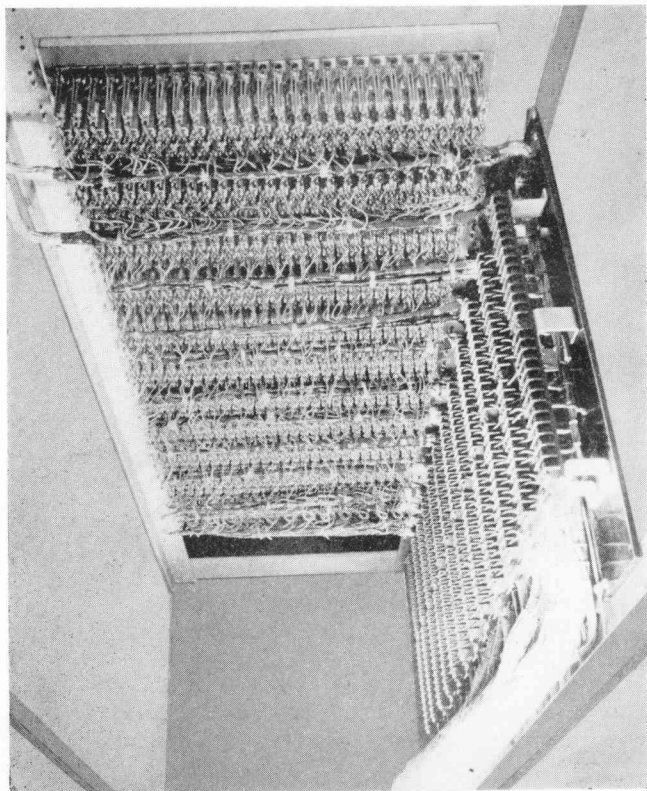

Figure 2-14. Top View Showing Alternate Method of Mounting Terminal Boards
2. **SIDE PANEL MOUNTING** (Figure 2-14).—Should additional front panel mounting space be required, the terminal strips may be mounted on the side of the Cabinet opposite from the side which carries the convenience outlet strip (right hand looking from the rear). The mounting is accomplished by drilling and tapping appropriate holes in the rear vertical corner angle of the Cabinet. One of the movable vertical channels is installed in such a position that it may be drilled and tapped to support the opposite end of the panel. This type of mounting is possible only if the components mounted on the front panels do not protrude more than 4 1/2 inches beyond the rear of the front panel.